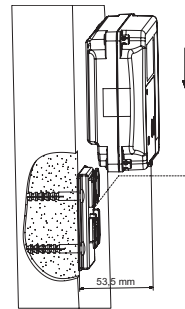

Fig. 3
7. Slide the calculator onto the installed mounting base as shown in Fig. 3